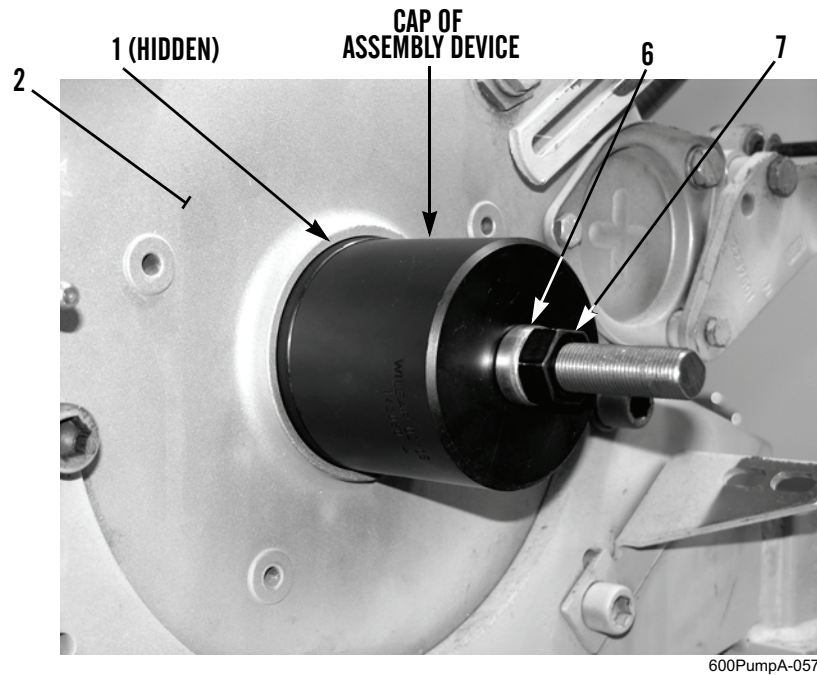

Figure 5. Installing Front Main Seal.
5. Install cap of assembly device with washer (Figure 5, Item 6) and nut (Figure 5, Item 7).
6. Turn nut (Figure 5, Item 7) to fully seat front main seal (Figure 5, Item 1) to correct depth in engine front cover (Figure 5, Item 2).
7. Remove both parts of assembly device and shim(s) (if used) from crankshaft (Figure 5).